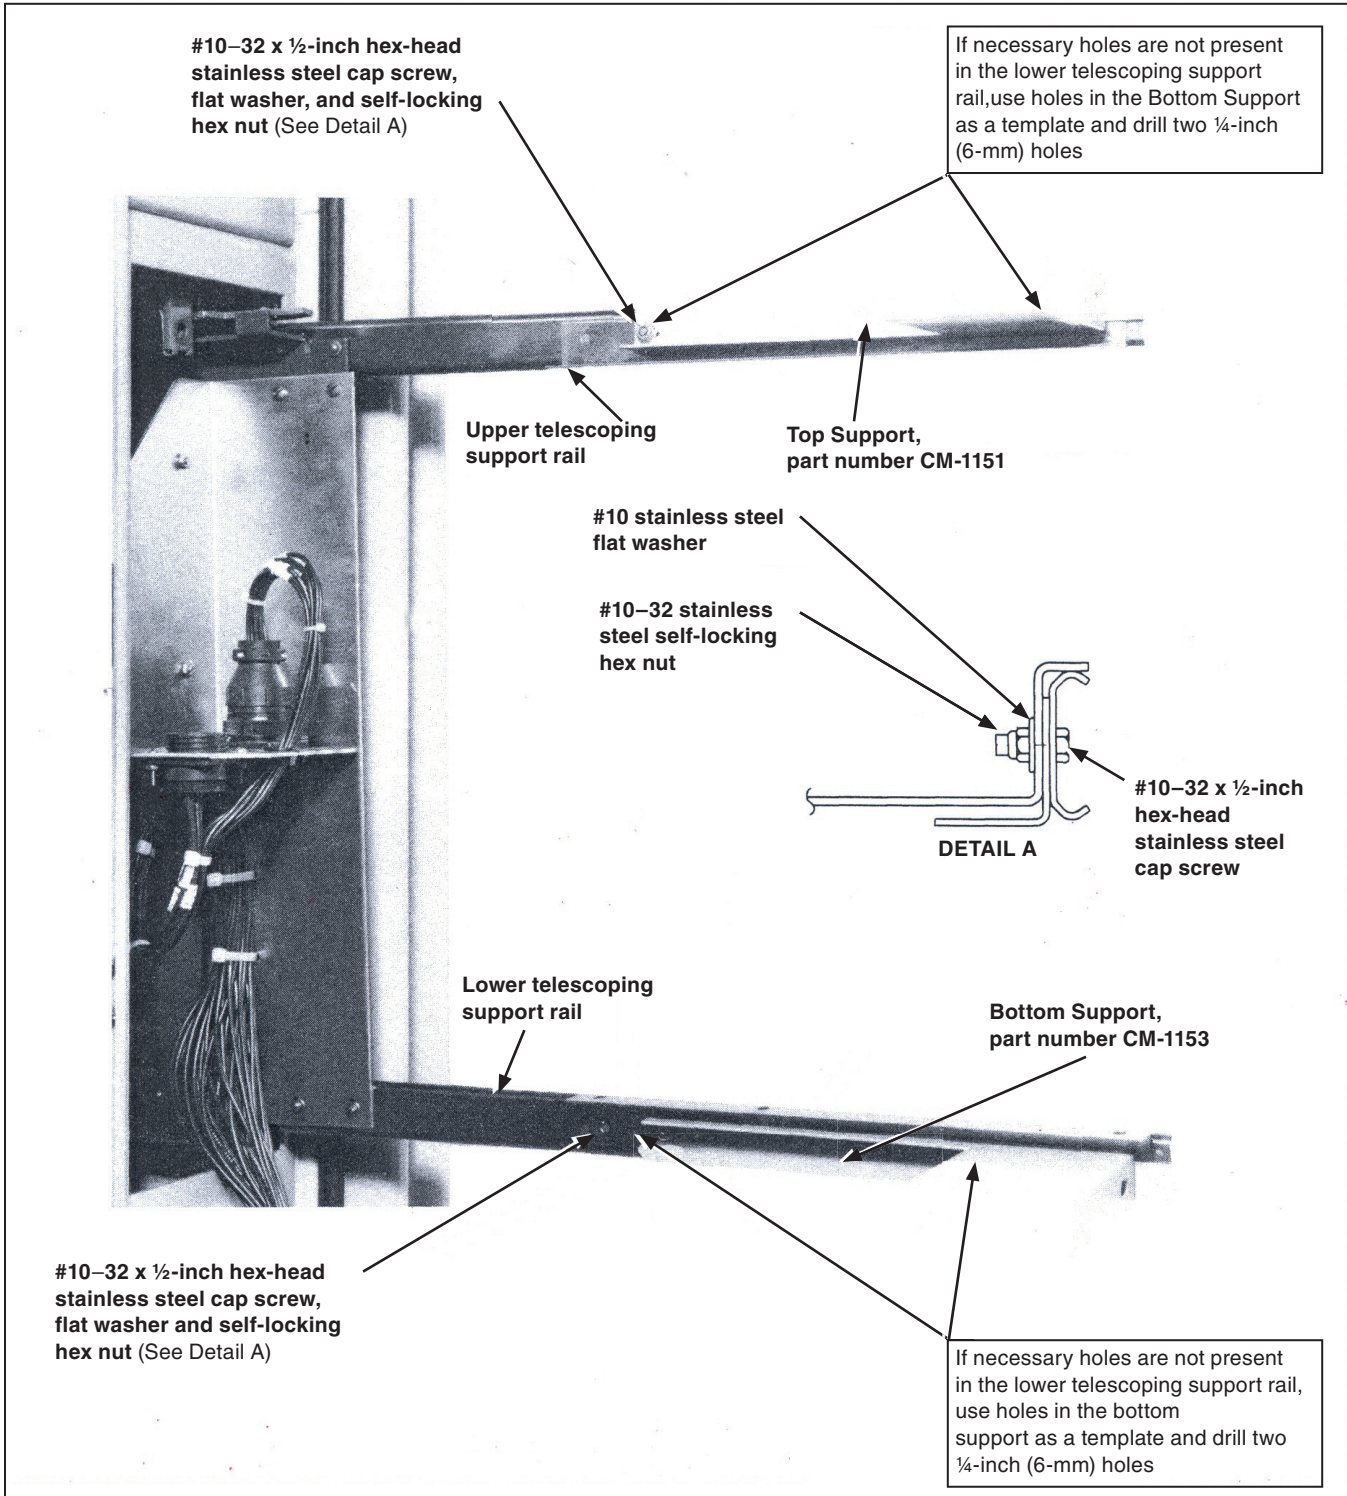

Figure 5. Attaching top and Bottom Supports to telescoping support rails.
STEP 1. Attach the Top Support, part number CM-1151 (furnished in the retrofit kit) to the upper telescoping support rail using two #10-32 x 1/2-inch hex-head stainless steel cap screws, flat washers, and self-locking hex nuts (furnished in the retrofit kit). See Figure 5. **The hardware**
STEP 2. Attach the Bottom Support, part number CM-1153 (furnished in the retrofit kit), to the lower telescoping support rail using two #10-32 x 1/2-inch hex-head stainless steel cap screws, flat washers, and self-locking hex nuts (furnished in the retrofit kit). See Figure 5 on page 10. **The hardware must be assembled as shown in Detail A.** Securely tighten the hardware. If the necessary holes are not present in the lower telescoping support rail, use the holes in the Bottom Support as a template and drill two 1/4-inch (6-mm) holes at the positions shown in Figure 5 on page 10.